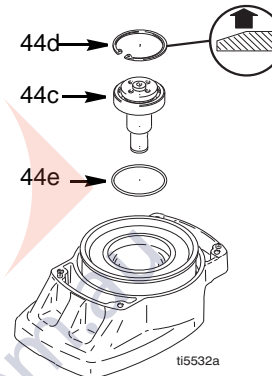

FIG. 6
7. FIG. 6. Remove retaining ring (44d).
6. FIG. 6. Install o-ring (44e).